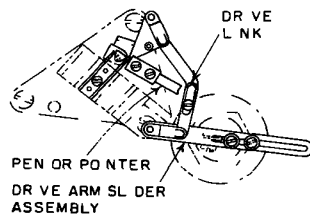

FIGURE 3 Recorder and Indicator Linkage Adjustments
a. Apply maximum differential head. If average reading is low, increase pointer travel by loosening clamp screw holding drive arm slider assembly (Figure 3) and move assembly slightly to the left, if average reading is high, decrease pointer travel by moving assembly slightly to the right. Move the slider only enough to decrease the error by one-half. Retighten clamp screw.